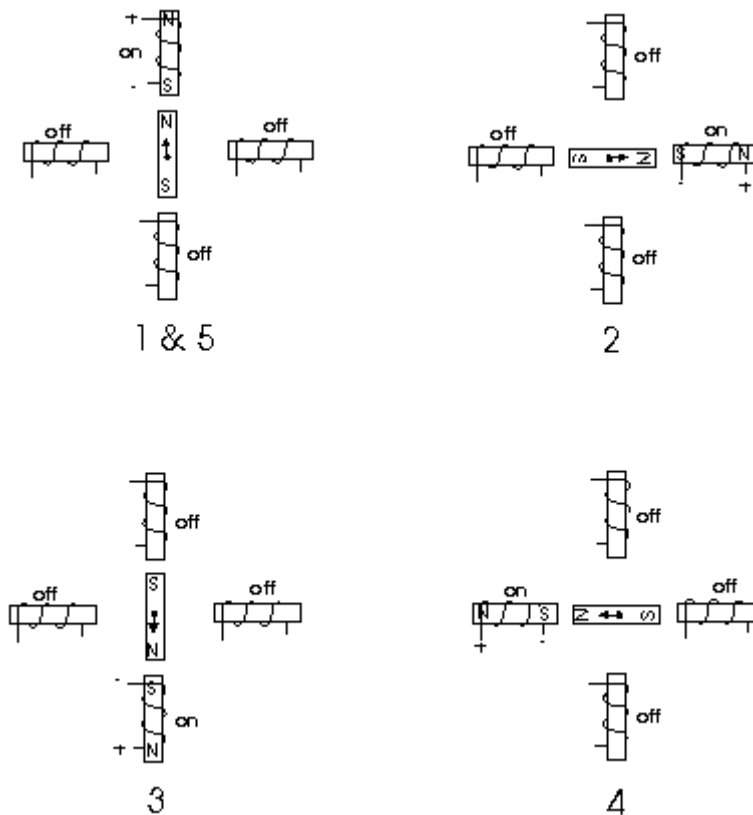

Figure 1
Stepper motors consist of a permanent magnet rotating shaft, called the rotor, and electromagnets on the stationary portion that surrounds the motor, called the stator. Figure 1 illustrates one complete rotation of a stepper motor. At position 1, we can see that the rotor is beginning at the upper electromagnet, which is currently active (has voltage applied to it). To move the rotor clockwise (CW), the upper electromagnet is deactivated and the right electromagnet is activated, causing the rotor to move 90 degrees CW, aligning itself with the active magnet. This process is repeated in the same manner at the south and west electromagnets until we once again reach the starting position.